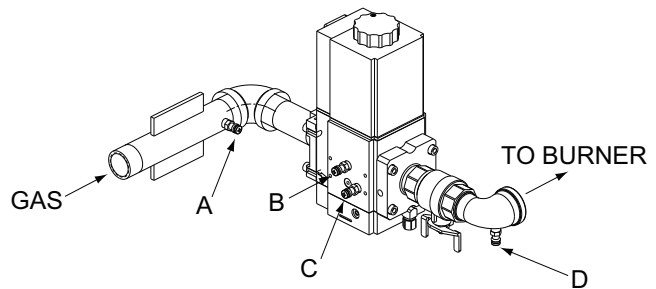

Fig. 52: Gas Pressure Measurement Locations
2. Attach (1) 12" scale manometer to an upstream bleedie valve on the gas supply pipe to the heater (Measure point "A" in Fig. 52).
3. Attach (1) 24" scale manometer to the manifold pressure tap located on the elbow downstream of the valve (Measure point "D" in Fig. 52).
4. Attach (1) 12" scale manometer near the fan-proving switch. Pull black cap from air pressure switch tee and connect the manometer. NOTE: Retain caps for reinstallation later.